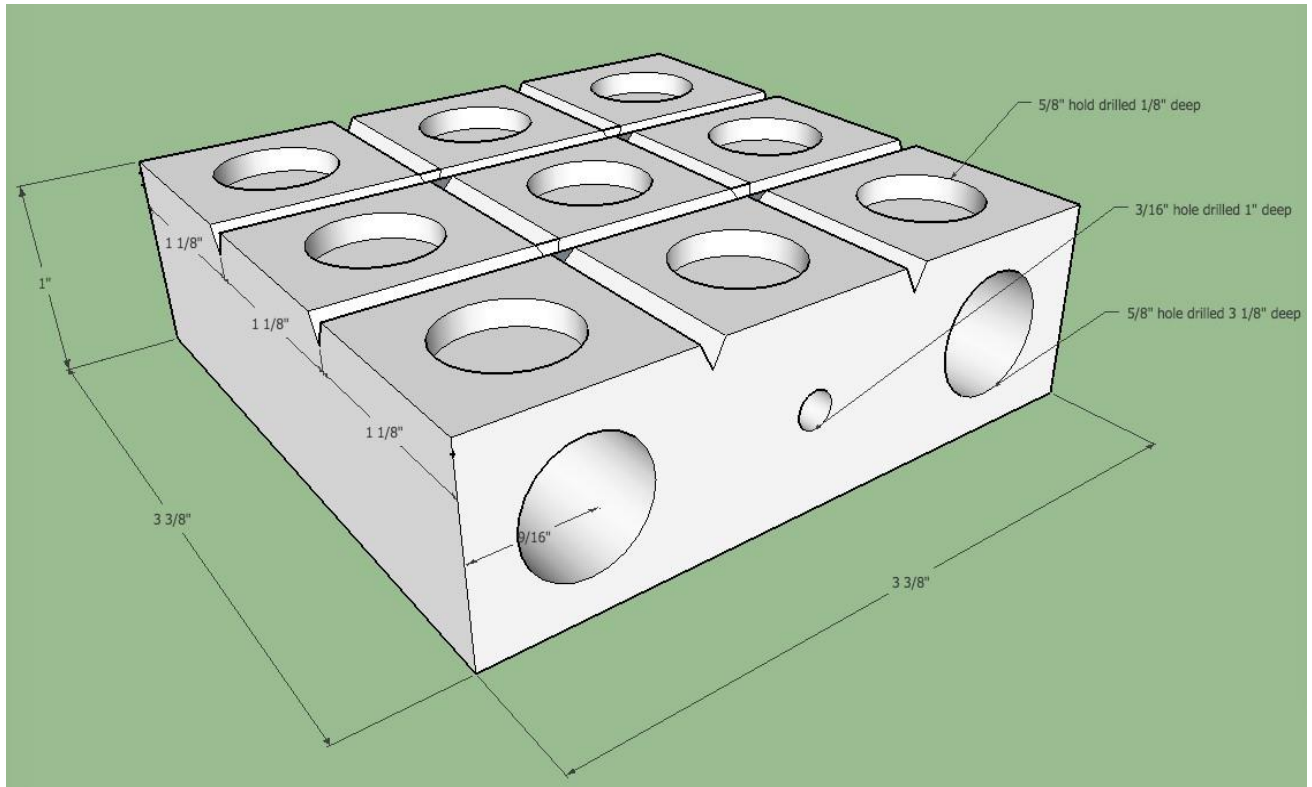

Figure 1.
1. Obtain a (1) Pine blank from the Instructor
5. Layout the locations for marble storage exactly 1" from each edge on the long grain of the pine blank, and centered top to bottom. (See figure 1)
6. Layout the location for the wood screw on the long grain of the pine blank (See figure 1)
12. Obtain (1) 3" strip of hardwood from the Instructor.